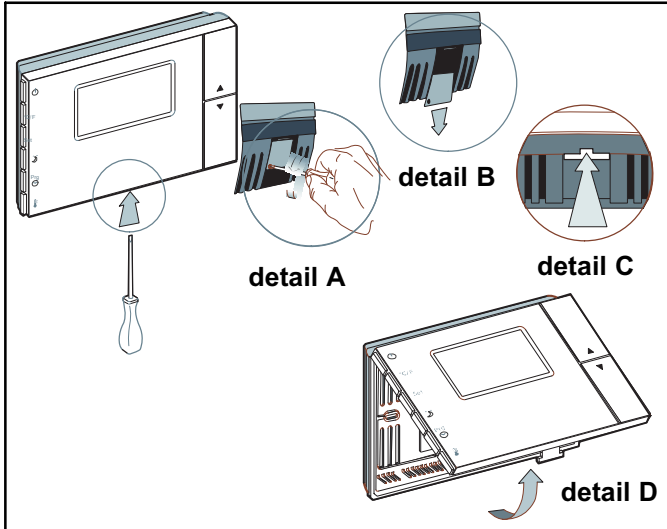

Figure 1. Opening the humidistat
- Open the product by detaching the front from the mounting base, as shown in figure 1: